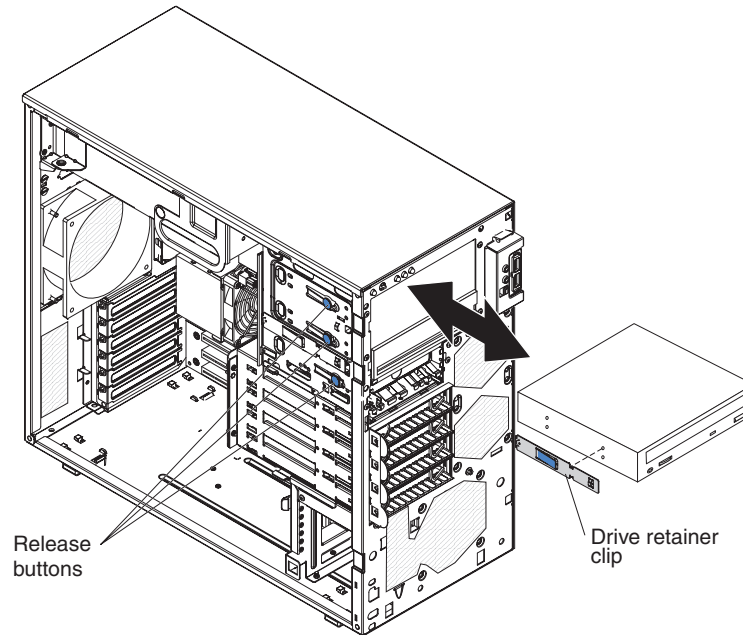

Figure 27. Removing a drive from bay 1, 2, or 3
6. To remove a drive from bay 1 or 2, release the drive from the bay by pressing the blue release button on the side of the bay (see Figure 27). Pull the drive out of the computer.